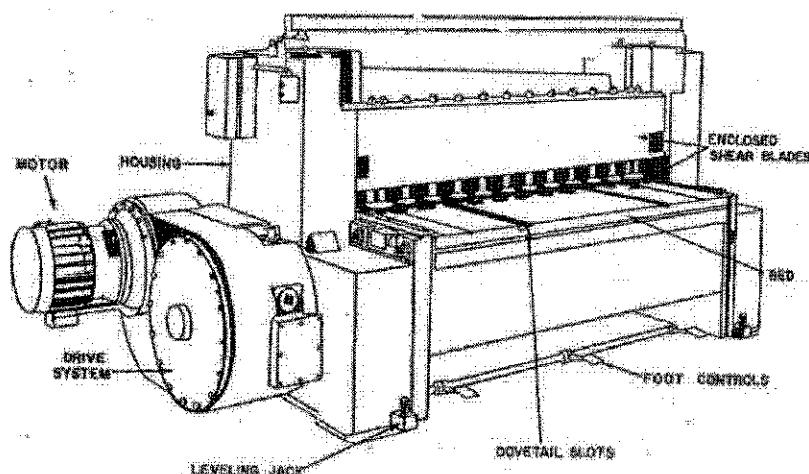

Figure 4 / Rajah 4
- CLO1 (c) A hydraulic shear cutter machine is to be operated by using a single acting cylinder with spring return shown in Figure 4. The cylinder moves to extend position when the pedal is pressed. Draw a basic hydraulic circuit and label each of the components.